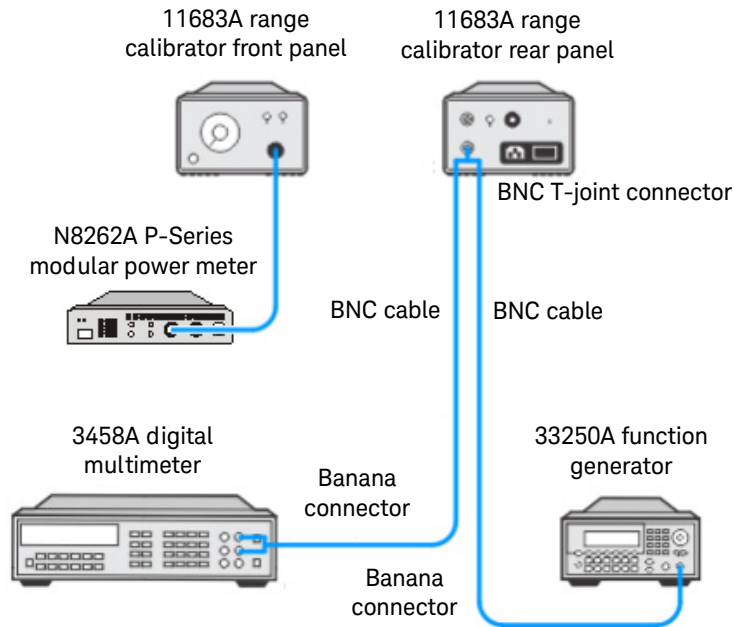

Figure 2-1 Absolute accuracy test setup
- 1 Connect the equipment as shown in Figure 2-1.